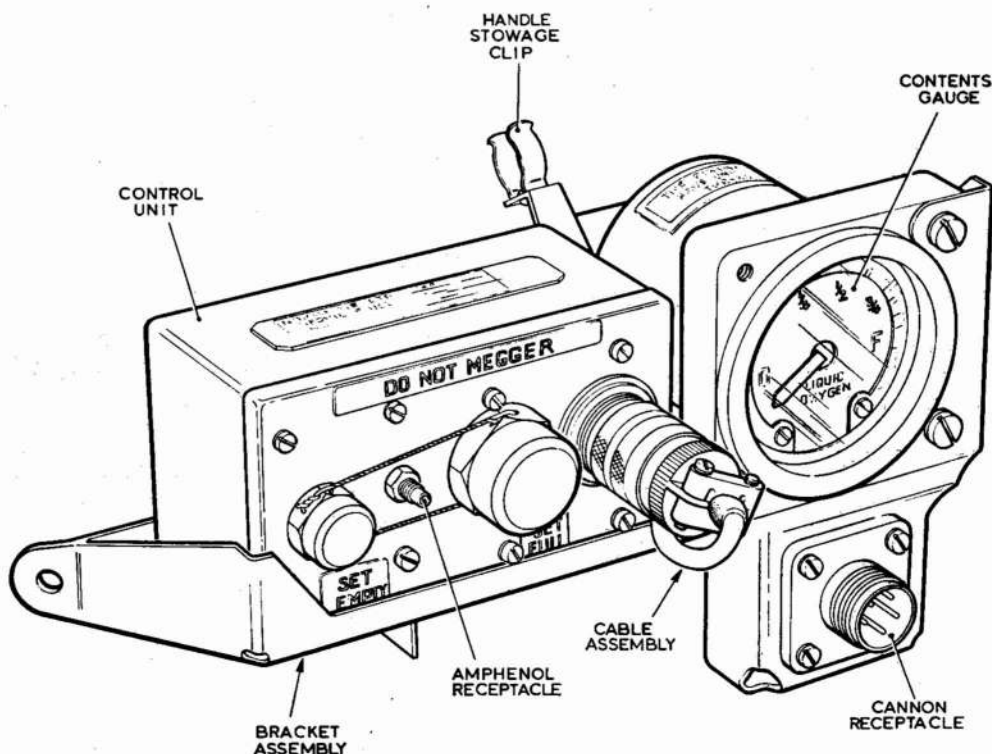

Fig. 2. Contents gauge assembly
8. The contents gauge assembly (fig. 2) consists of a bracket on which are mounted a control unit (Sect. 2), and a contents gauge (Sect. 2, Chap. 2). These units are secured by screws and washers, anchor nuts being riveted to the bracket for attachment of the control unit, while the gauge securing screws screw into the gauge case. A clip on the bracket provides a stowage position for the package lifting handle.